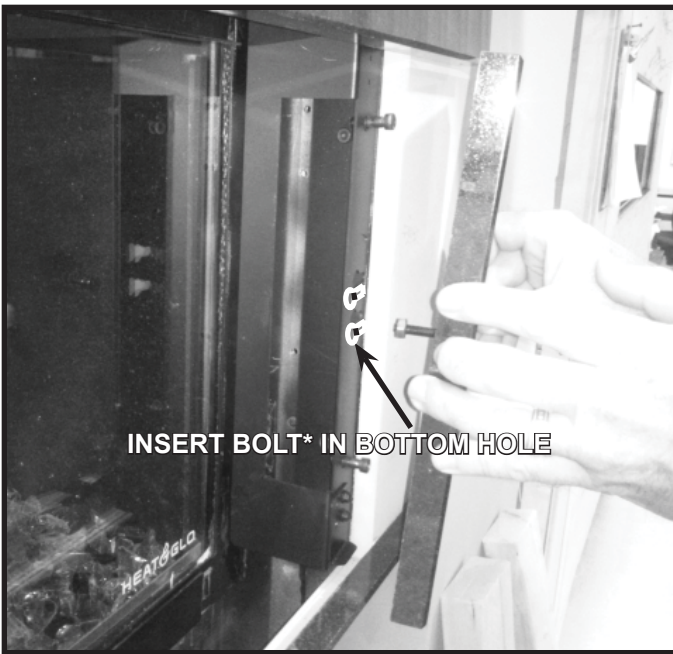

Figure 10.25. Install Side Granite Pieces
3. Install right outside granite by aligning the bolts on the back of the granite piece with bottom hole on granite transition panel bracket. Insert the bolt* in the bottom slot. See Figure 10.25. Align and slide toward outside of appliance. Repeat with left side granite.
NOTICE! Verify the left and right side granite locations before installing the top and bottom granite. See Figures 10.25, 10.27, 10.29.
- Slide both side granite pieces outward as shown in Figure 10.29. Verify dimensions in Figure 10.25, 10.27 and 10.29.
NOTICE! Verify the left and right side granite is correctly installed per Figure 10.25, 10.27 and 10.29.
18. Reinstall side granite. See Figure 10.25.